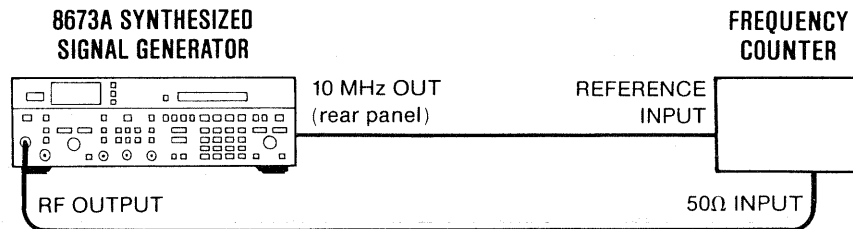

Figure 4-1. Frequency Range and Resolution Test Setup
1. Connect the equipment as shown in Figure 4-1.